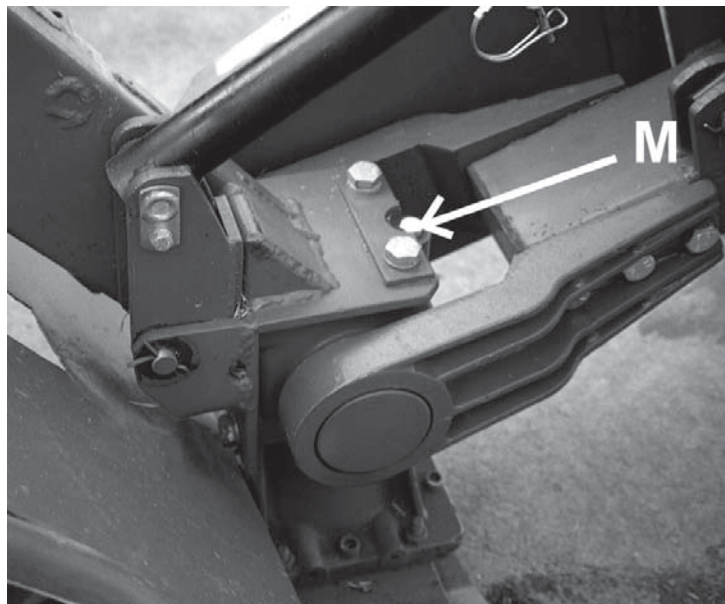

Figure 16
17. To check gearbox oil level remove fill plug (M)(See **Figure 16**). With gearbox and bar, level with the ground, oil should be at level line on dip stick. Fill with SAE EP90 gear lubricant if necessary. Requires 3/4 quart to fill.